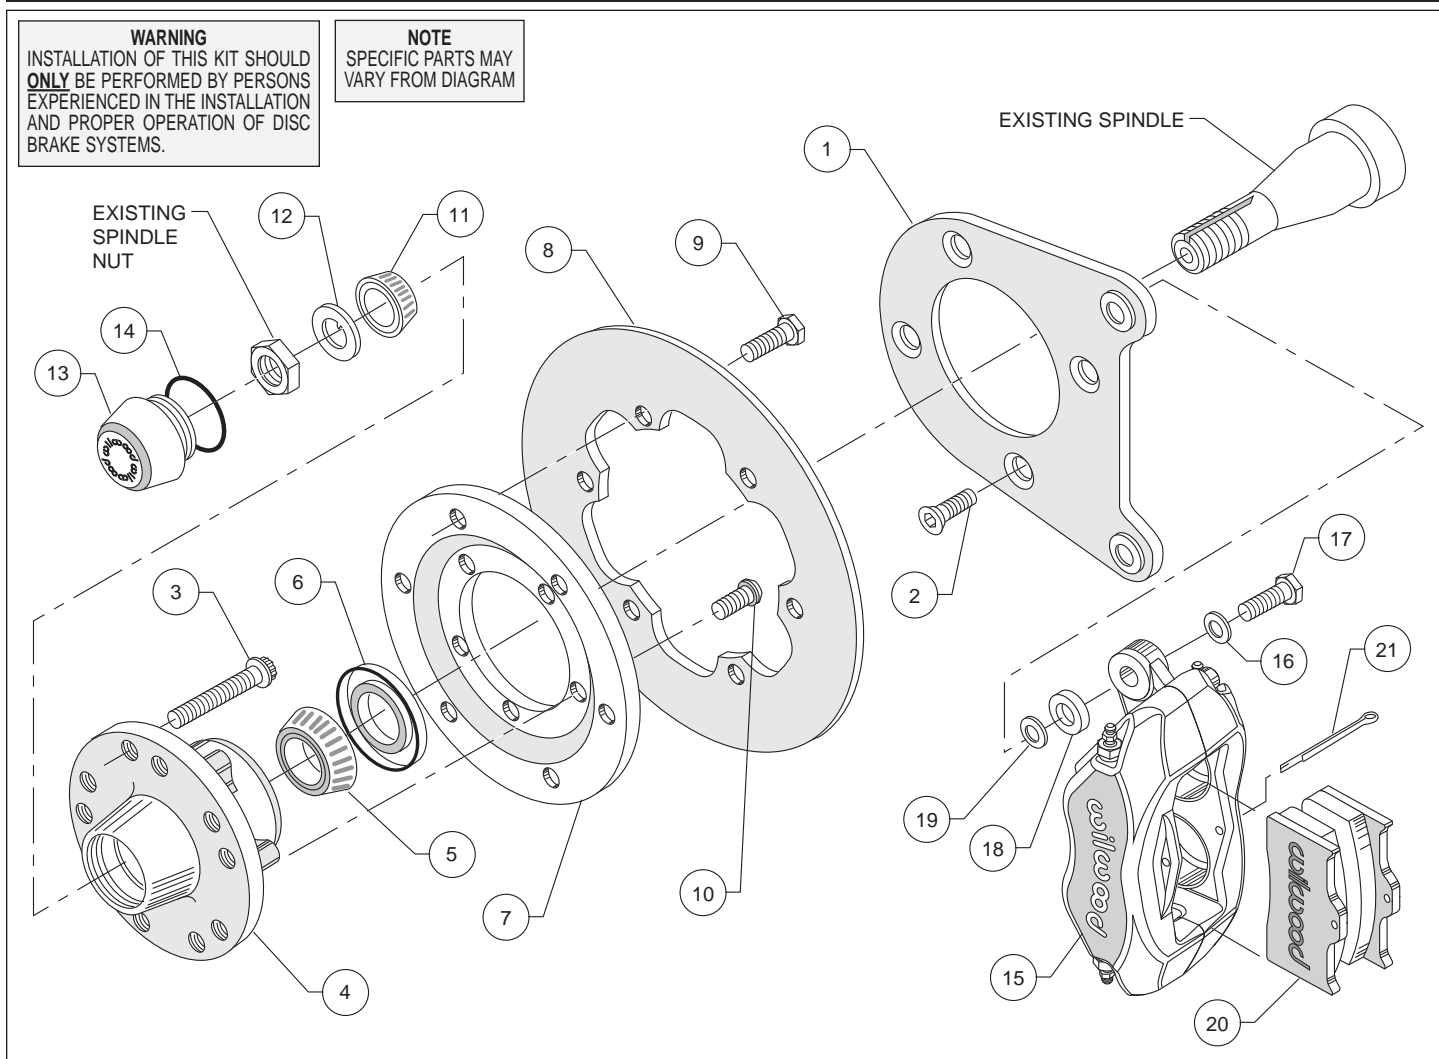

Figure 1. Typical Installation Configuration
- Mount the adapter/rotor assembly (7/8) to the hub (4) using bolts (10) (finger tight), as shown in Figure 1. Using an alternating sequence, remove bolts one at a time, apply red *Loctite*® 271 to the threads, and torque to 45 ft-lb.
- Pack the small outer bearing cone (11) with high temperature disc brake bearing grease and install into front of hub (4). Slide the hub/rotor assembly (4 and 8) with outer bearing cone (11) onto the spindle. Secure using spindle washer (12), adjusting nut, and nut locking device. Adjust bearings per Original Equipment Manufacturer (OEM) specifications.
- Install the dust cap (13) onto the hub (4). Friction created by the o-ring (14) on the dust cap (13) keeps it from unscrewing. The O.D. of the existing spindle washer may be larger than the I.D. of the dust cap (13) not allowing it to seat against the hub face. Some grinding on the washer O.D. may be necessary to clear the I.D. of the dust cap (13).